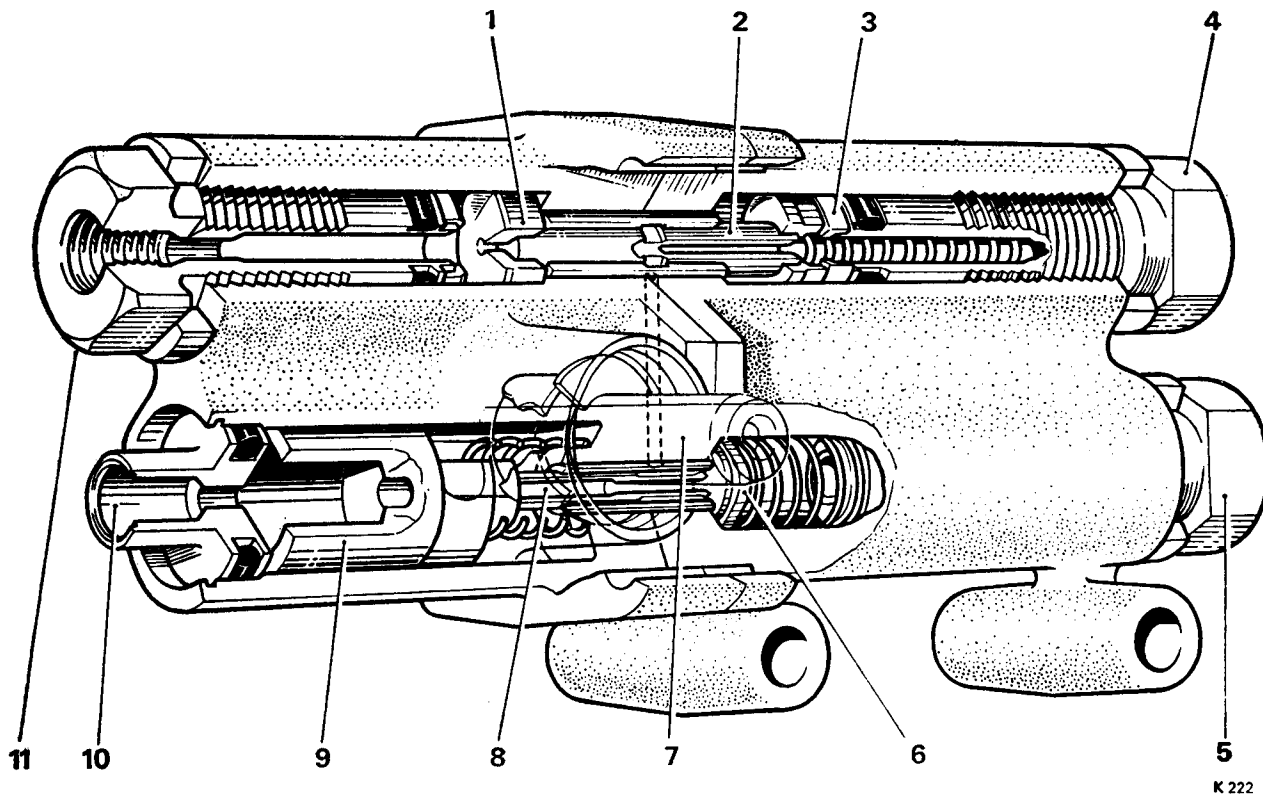

FIG. G19 CUT-AWAY VIEW—REAR HEIGHT CONTROL VALVE
(see Figs. G19 and G20)
1. Insert the operating shaft into position in the casing bearing bores, noting that the position of the shaft denotes whether the valve assembly is to be left-hand or right-hand (refer to *Figs. G19 and G20* for relative positions).